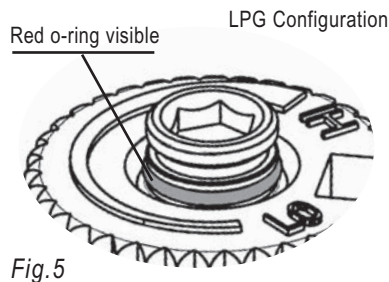

Fig. 5
- 15) Verify that if the conversion is from NG to LPG, the screw must be re-assembled with the red o-ring visible (Fig. 5).